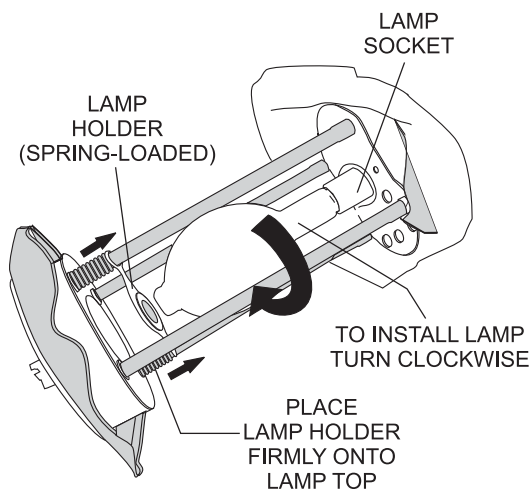

Figure 26. Installing the Lamp
1. When installing a new lamp (Figure 26) use only MQ recommended type lamp. See parts section of this manual. Failure to use correct type lamp could adversely affect lighting capability and may cause damage to the equipment.